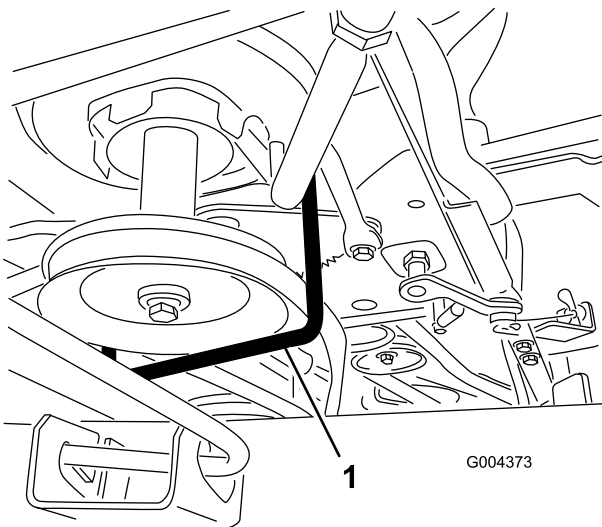

Figure 1
1. Remove the engine pulley belt keeper retaining screw from under the left side of the deck (Figure 1).
2. Remove the belt keeper from around the engine pulley (Figure 1).